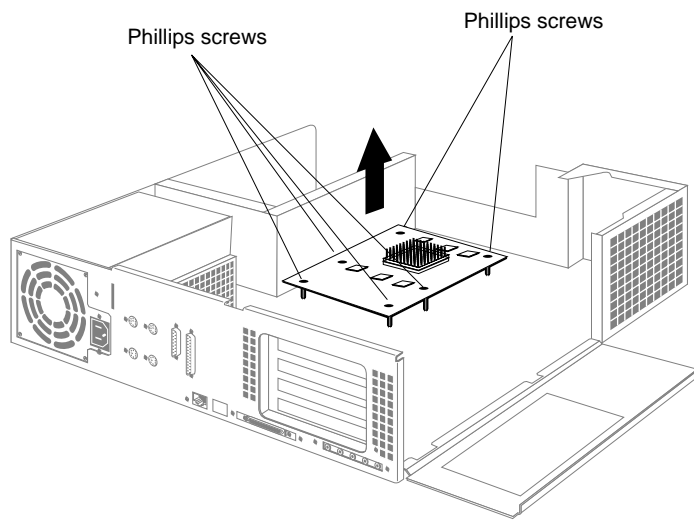

Figure 8-18 Removing the R4600 133 MHz CPU Module
7. Remove the R4600 133 MHz CPU module, as shown in Figure 8-18.